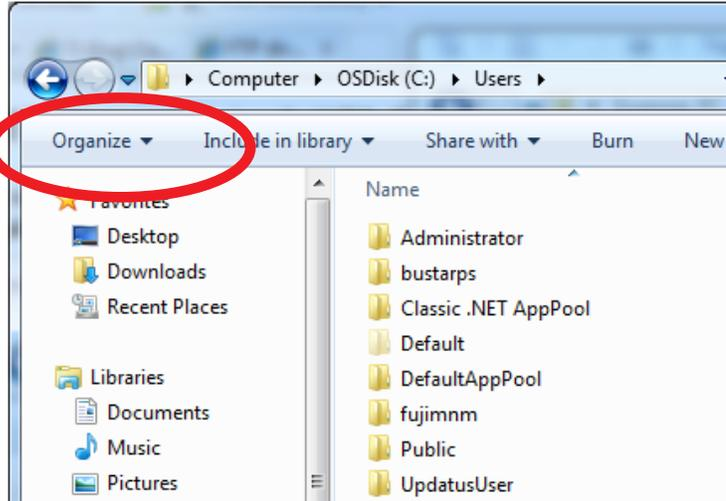

Figure A3.1
- b. On the now visible window, click on the **Organize** button (top left) (Figure A3.1).